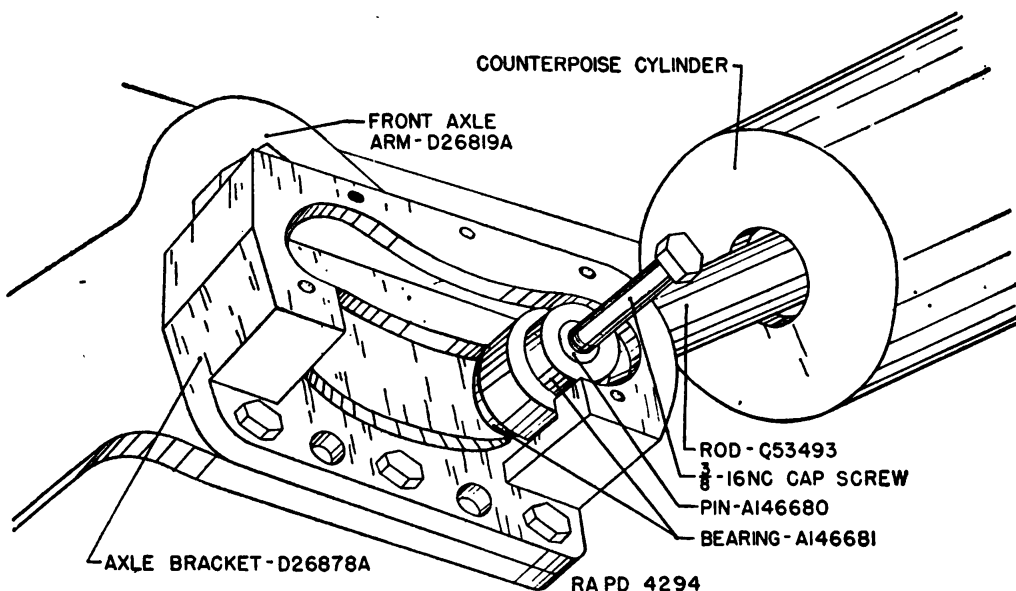

FIGURE 75.—Removal of counterpoise rod from axle bracket
*e.* Nuts (C) are then removed with the counterpoise cylinder wrenches, causing the spring to bear against the spacing collar.
*g.* Insert a  $\frac{3}{8}$ -16 NC cap screw into the threaded hole in pin A146680 (fig. 75).